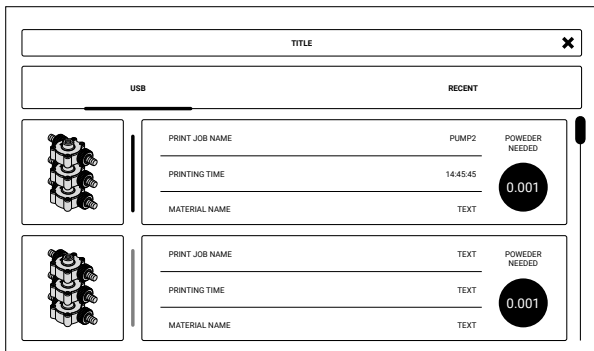

Fig. 6.1 Loading the file.
2. Choose the new file (**USB** or **UPLOADED** from Sinterit Studio) or recently used file (**RECENT**) (fig. 6.1).